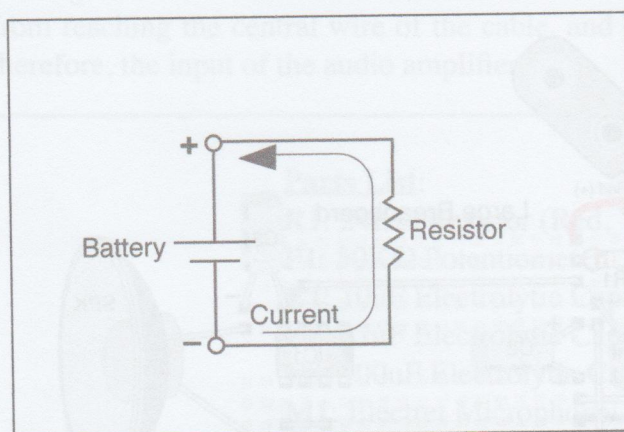

Figure 1 - Simple DC Circuit
Direct current (DC) travels in a circuit in one direction only. A battery, for example, is a source of direct current, as the polarity of its terminals never changes. The positive terminal is always positive; the negative terminal is always negative. Figure 1 shows a DC circuit made up of a battery and a resistor. In this circuit, the current always travels in the direction shown in the figure.